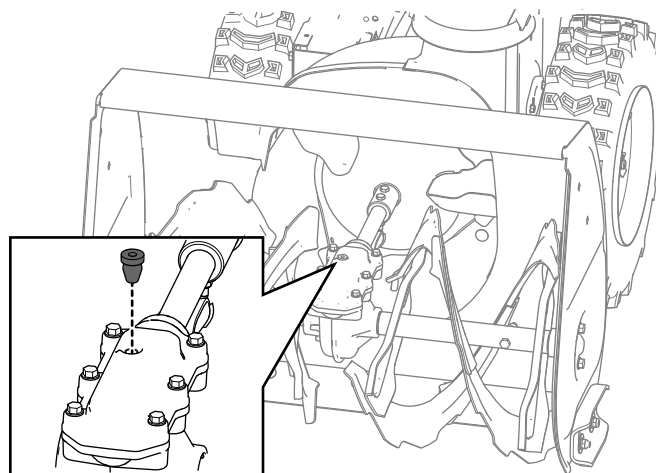

Figure 30
2. Clean the area around the pipe plug and remove the pipe plug from the gearbox (Figure 30).